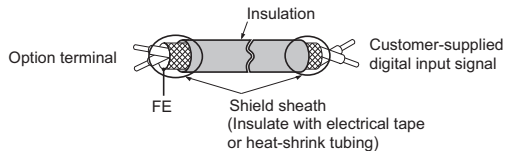

Figure 14 Prepare Ends of Shielded Cable
4. Prepare the wire ends as shown in Figure 14.